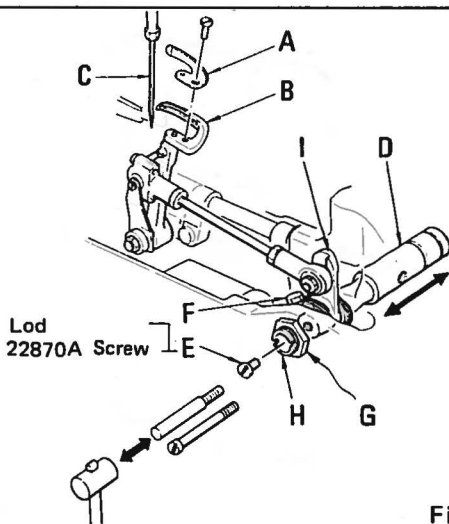
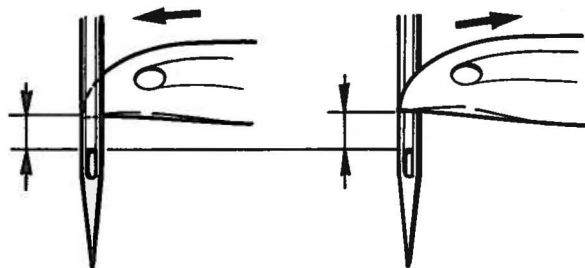

Fig. 4
Fig. 5
Turn the handwheel counterclockwise (in the direction of operation), and check the crosswise movement of the looper (B, Figure 4) with regard to the needle (C, Figure 4). The looper and the needle are correctly timed if the vertical distance from the looper point (See Fig. 5) to the needle hole, measured when the looper point is in line with the left-side edge of the needle as the looper moves forward (to the left) is the same as that when measured as the looper goes back (toward the right) (See Fig. 5). Deviation of ± 0.1 mm is allowable. If the distance as measured when the looper is moving to the left is larger than that measured when the looper is moving back to the right, move back the looper drive rocker shaft (D, Figure 4), and when it is smaller, move it forward.
To adjust the position of the looper drive rocker shaft, first loosen the fastening screw (F, Figure 4) of the looper drive lever (I, Figure 4). Mount the rod .146-40 or the screw 22870A on the bell crank shaft through the thrust adjusting screw (H). Slightly tap or pull the shaft as required to obtain the required timing of needle and looper. After the adjustment, tighten the fastening screw (F).
Adjust the height of the needle bar so that the looper point is 0.4 mm above the needle hole when the looper reaches the left edge of the needle, as shown in Figure 5. To adjust, move the needle bar in the vertical direction after loosening the screw (A) of the needle bar holder. When the proper height is obtained, check the position of the shaved part of the needle again, and tighten the screw (A).